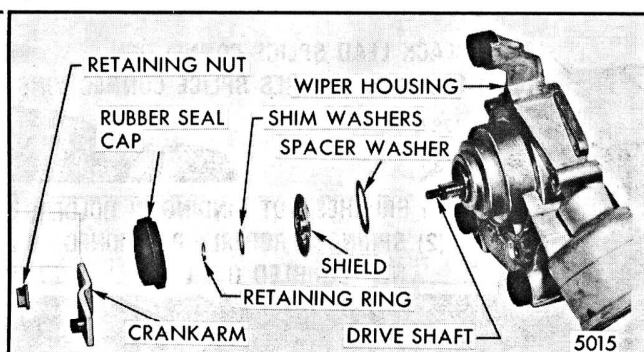

Fig. 2-106-Crank Arm Components
1. Clamp crank arm in vise and remove crank arm retaining nut, crank arm, rubber seal cap, retaining ring, shim washers, shield and spacer washer in the order indicated (Fig. 2-106).